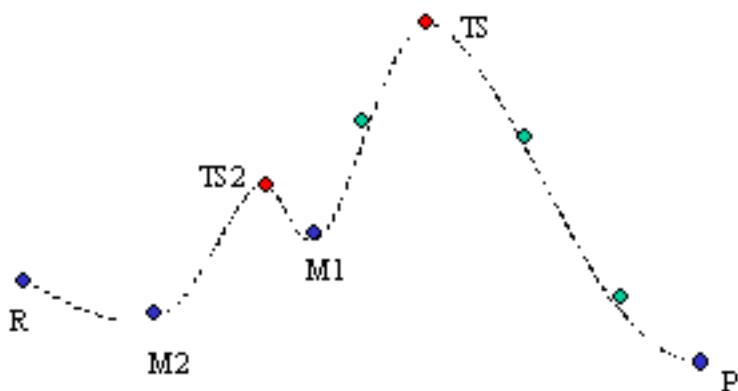

Figure 1
Consider the complex reaction pathway in Figure 1. An LST/QST transition state (TS) search algorithm takes the two endpoints R and P as input and locates one of the local maxima on the reaction coordinate. Assume that in this example it locates the highest energy barrier, TS.
The *TS Confirmation* algorithm takes these three points as input and return a trajectory that contains at least one point in the vicinity of the new minima; in this case, M1 or M2. Figure 1 shows these points as blue (minima) and red (maxima). In general, the path also contains a few points that do not correspond to stationary points (green).